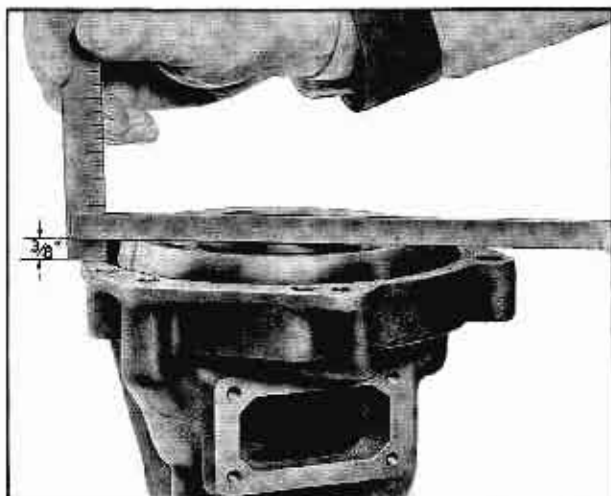

Fig. 14-45 Checking Dowel Pin Height
19. Check dowel pin height as shown in Fig. 14-45. Lay straight edge across reverse cone clutch piston and measure distance from face of straight edge to face of rear bearing housing. This distance should be  $3/8''$  to  $13/32''$ .